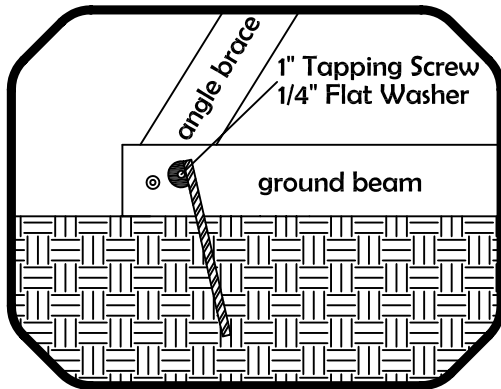

FIG. 16
Step 1: Drive Stakes into ground where shown below and attach with 1" tapping screw and flat washer as shown in Fig. 16 & 17. (Stakes will be attached to the Monkey Bar Ground Beam, the fort rails on the fort, the deck ladder rails, and rockwall supports)